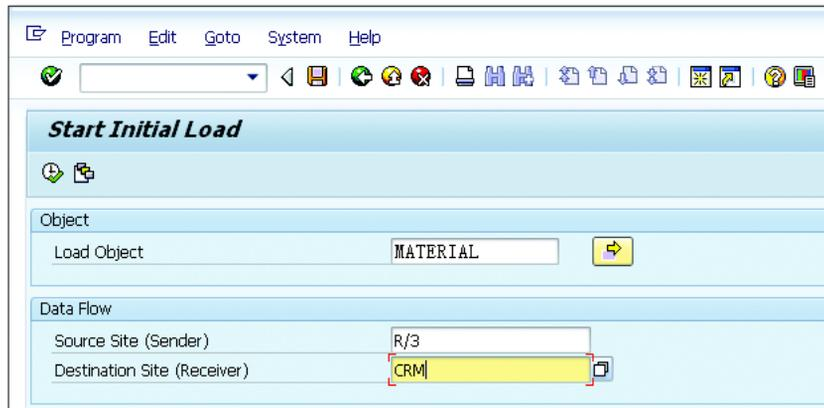

Figure 2.37 Material Initial Load
2. In the LOAD OBJECT field, enter "MATERIAL" (see Figure 2.37).